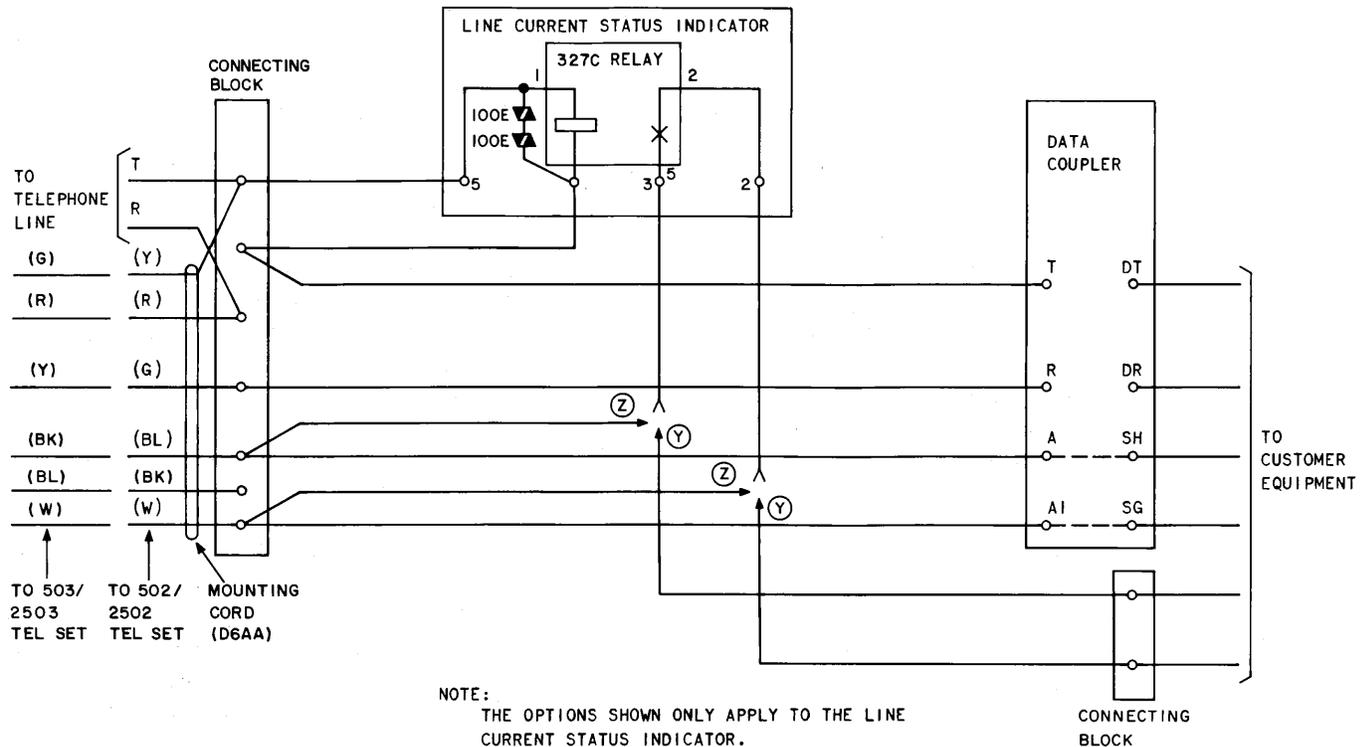

Fig. 13—Line Current Status Indicator Connection Diagram
3.13 The LCS I (Fig. 13) must be made locally.
- (3) Apply adhesive (Eastman 910 or equivalent) in the area to be occupied by the 327C relay.
- (4) Place relay on baseplate, topside down.
- (5) Remove and discard the lower screws from terminal strip eyelets in positions 2, 3, 4, and 5.
- (6) Wire the LCSi in accordance with Fig. 13.